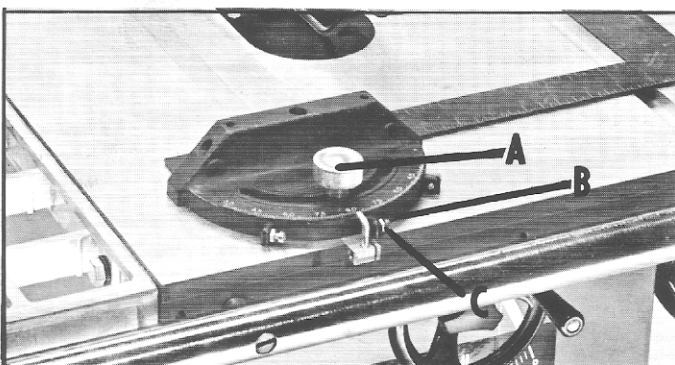

Fig. 33
To check and adjust the 90 degree setting of the miter gage, set the gage at 90 degrees, as shown in Fig. 33. Place a square against the face of the miter gage and along one of the miter gage slots, as shown. If the gage is not at 90 degrees, loosen the locking knob (A) and move the miter gage body until you are certain the gage is set at 90 degrees. Then adjust the stop screw (B) so it strikes the stop link when the gage is at 90 degrees, and tighten nut (C).